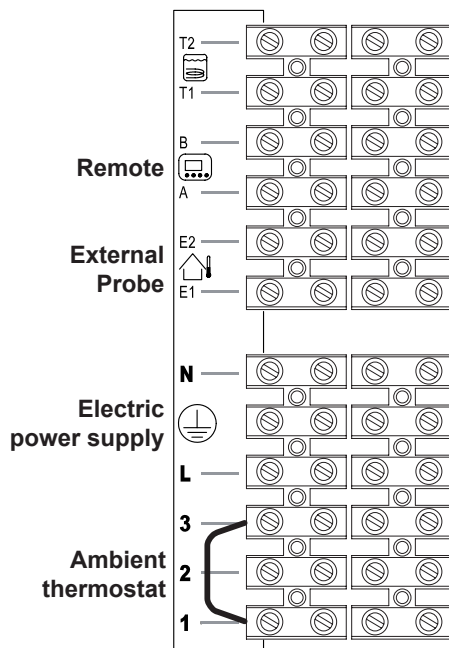

Fig. 6.32
To remotely connect utilise the terminals indicated in Fig. 6.32.
Use the clamps indicated in Fig. 6.32 to connect the external probe.
Use the clamps indicated in Fig. 6.32 to connect the remote.
**Do not remove the electric jumper connected on the ambient thermostat terminal block between "1 and 3" Fig. 6.32.**